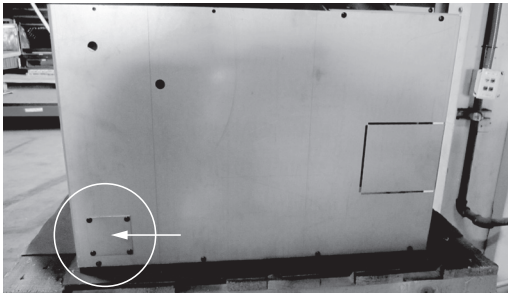

Figure 21.3
6. Install the cover plate over the top vent opening using 4 screws (**Figure 21.3**).